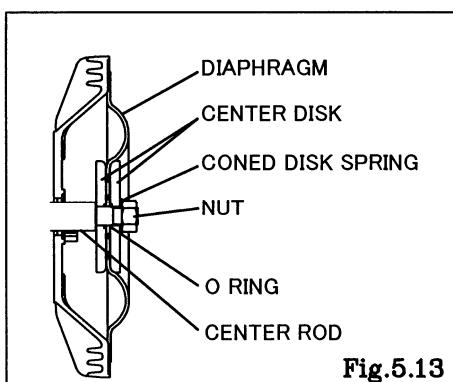

Fig.5.13
- Keep the convex side to the outside. (cf. Fig.5.13)
- Put the O rings to both sides of the diaphragm. (cf. Fig.5.13)